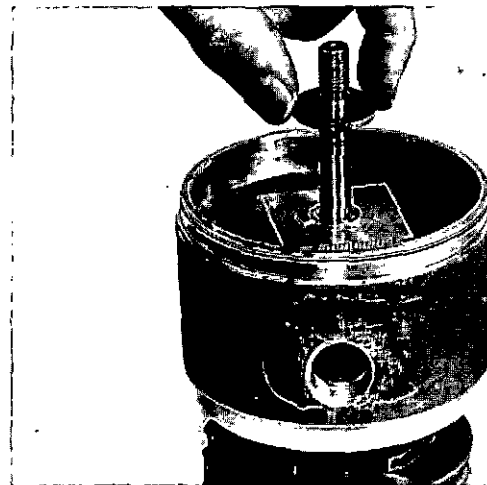

Fig. 2-8, (T3516). Installing the thrust washer
5. Position the new thrust washer over the turbine shaft. Align the mark on the thrust washer with the balance mark on the end of the rotor shaft, Fig. 2-8. The balance mark on the washer must face outward. If there is no mark on the washer, either side may face outward.